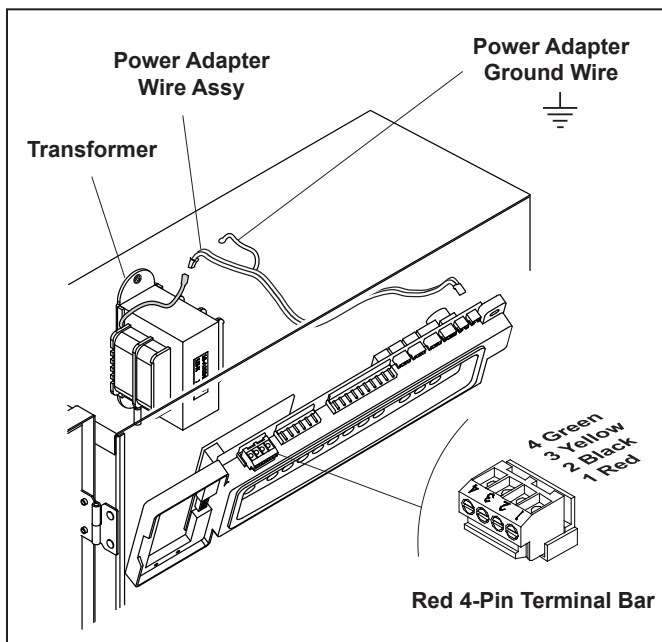

Figure 1. Installation of the Jandy PCB
5. Ground the power adapter green ground wire to the power center can as shown in Figure 1.